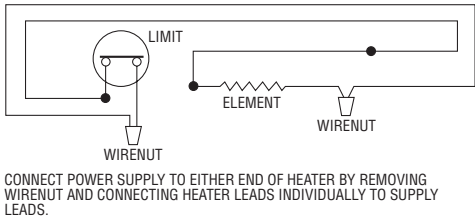

Figure 6. Heater Wiring Connections
10. Connect supply wiring to heater as described in Figure 6, or as shown in the wiring diagrams supplied with the accessory kits intended for use with this heater.